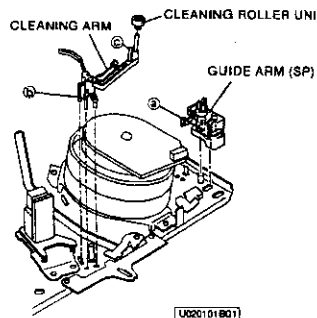

Fig. 2-1-1
1. Disconnect the lead from the FE HEAD, which is clamped on the GUIDE ARM (SP) shown in Fig. 2-1-1.
2. Unfasten the catch (a) of the GUIDE ARM (SP) shown in Fig. 2-1-1 to remove the GUIDE ARM (SP).
3. Unfasten the catch (b) of the CLEANING ARM shown in Fig. 2-1-1 to remove the CLEANING ARM.
4. Unfasten the catch (c) of the CLEANING ARM shown in Fig. 2-1-1 to remove the CLEANING ROLLER UNIT from the CLEANING ARM.
1. Install the CLEANING ROLLER UNIT shown in Fig. 2-1-1 to the CLEANING ARM.
2. Install the CLEANING ARM shown in Fig. 2-1-1.
3. Install the GUIDE ARM (SP) shown in Fig. 2-1-1.